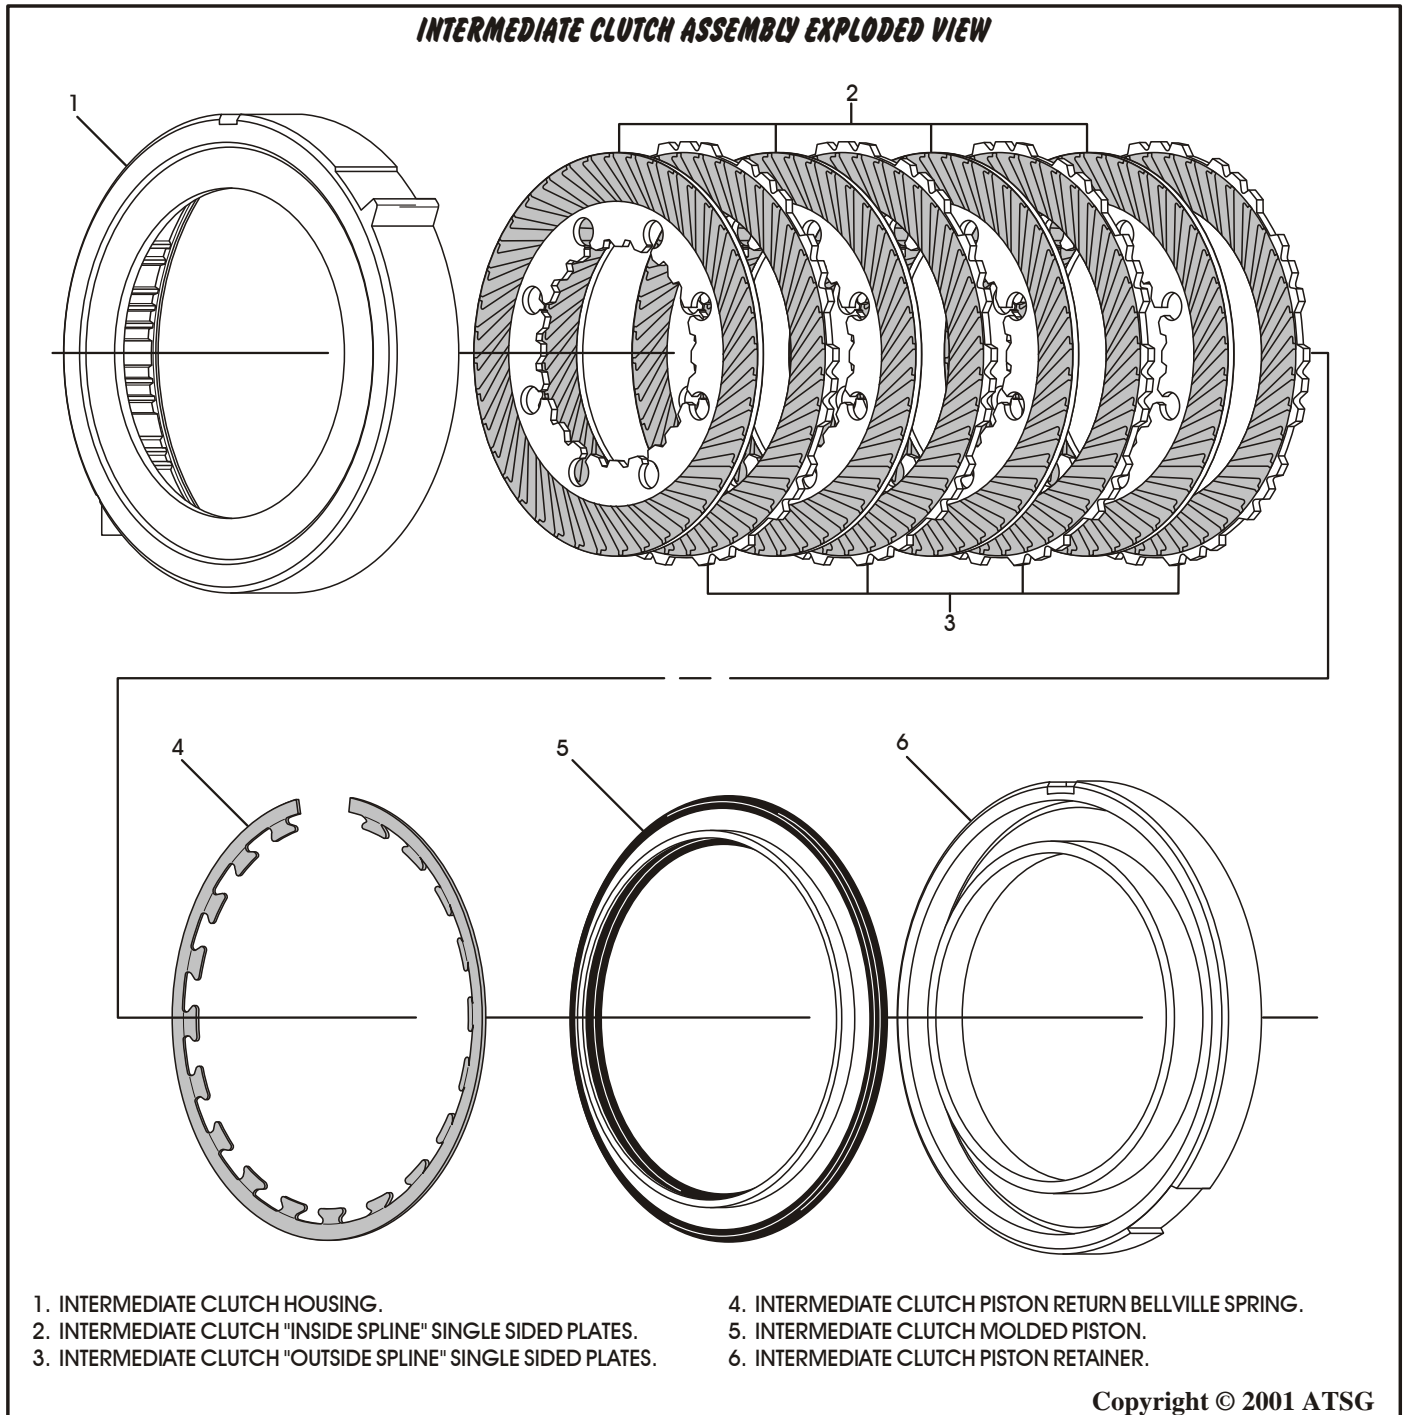

Figure 112
1. Disassemble the intermediate clutch assembly using illustrations in Figure 112 as a guide.
5. Note that the intermediate clutch plates are the single sided design, as shown in Figure 112.